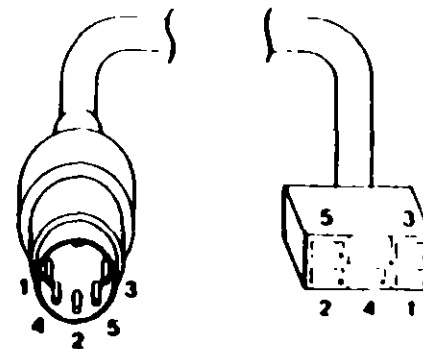

Figure 2. Continuity Check
- Refer to Figure 2 on page 0100-5, and check the keyboard cable for continuity.